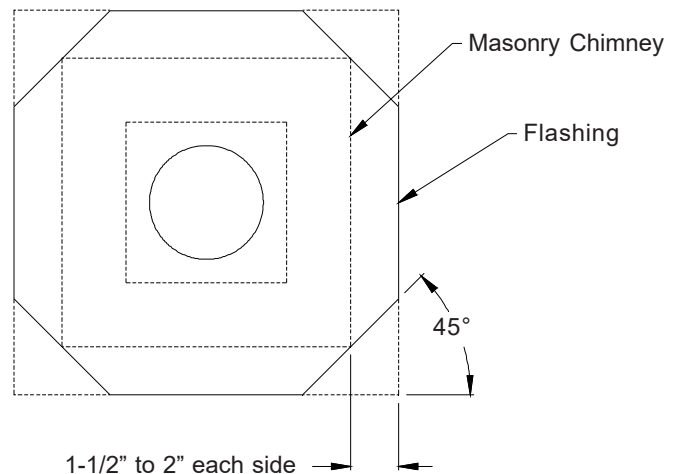

FIGURE 17 - FLASHING - STAINLESS STEEL RIGID LINER
- Position the Flashing and center the flat plate on top of the clay tile (or masonry chimney). Mark the outline of the clay tile on the underside of the flashing plate. The ideal size should be at least four inches larger than the outside of the masonry chimney (or clay tile). There should be a minimum of two inches overhang on each side of the chimney (or clay tile). Cut off each corner at 45° (see Figure 17). Trim as necessary or fold edges over the outside of the chimney.